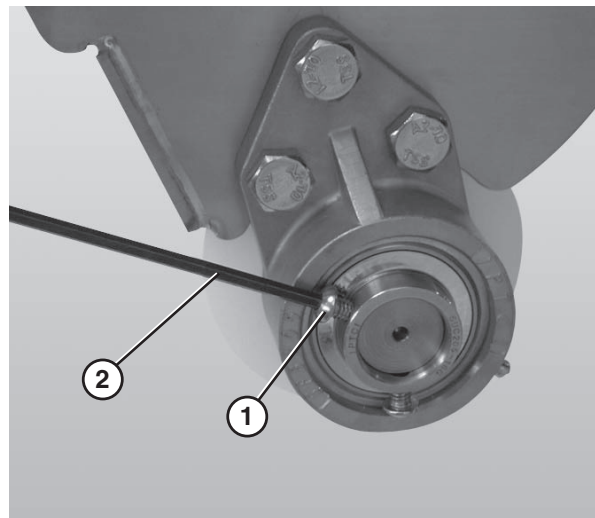

Figure 62
- Remove the bearing cover and loosen the 3 hole flange (**Figure 62, item 1**) with bearing fasteners using a hex wrench (**Figure 62, item 2**).